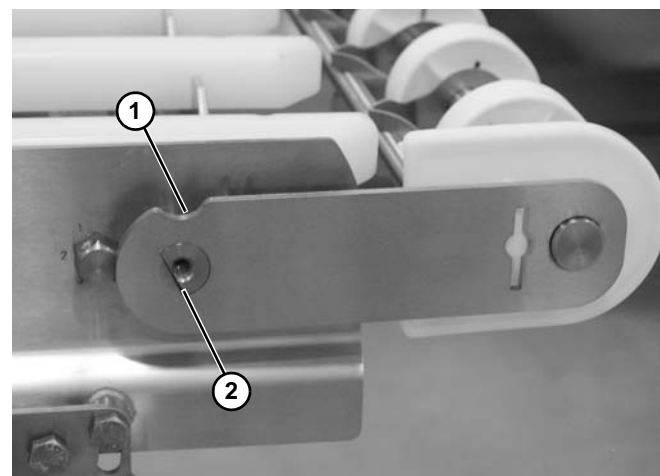

Figure 88
*Make note of curved notch (**Figure 88, item 1**) and notched end (**Figure 88, item 2**) of tail plate before removing assembly.*